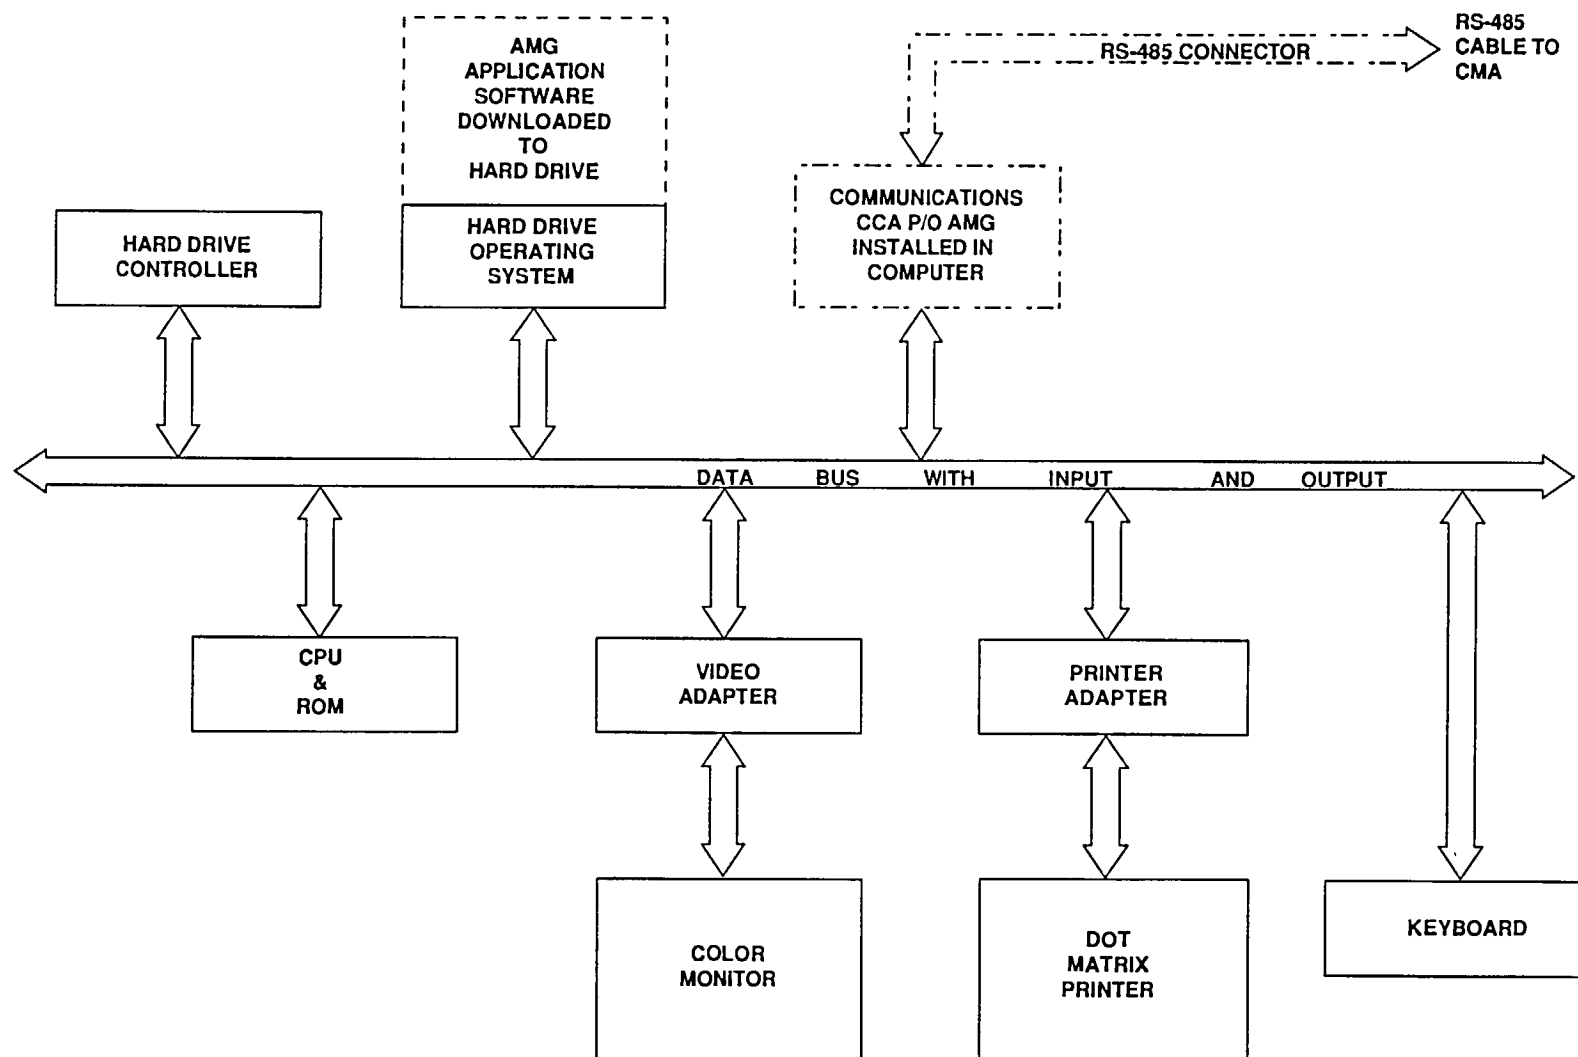

Figure 1-7. Computer Functional Block Diagram (Typical).
1.13.5 IBM-PC/AT Compatible Computer Functional Description. The computer (figure 1-7) consists of a personal computer, monitor, printer, and operating software. The computer uses a data bus to interface computer components. The data bus is controlled by Basic Input/Output System (BIOS) stored in Read Only Memory (ROM), the operating system installed on the hard drive, and the CPU of the computer. The Communications CCA and application software provided with the AMG are installed in the computer. When the AMG application software is copied to the hard drive of the computer, the autoexec.bat file is updated to load the application software. When the computer is powered on, the autoexec.bat file instructs the computer to load the application software. This causes the computer to automatically start the application software. The application software displays an initialization screen for a few seconds and then displays an operational screen. The application software also takes control of the computer and disables unwanted keys of the computer keyboard and unwanted functions of the operating system. It assigns designated controls to the function keys and assigns designated tasks to selected keys. The applications software instructs the computer to send poll requests to the CPUs located in the CMA and to receive and process the data from the CPUs.